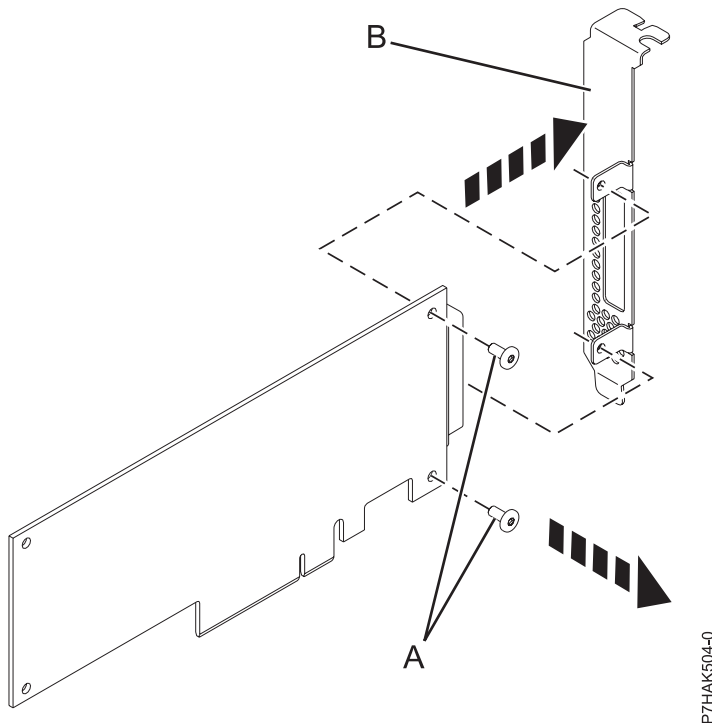

Figure 33. Removing the high-profile tailstock from a new PCI adapter
7. Using a Phillips screwdriver, unscrew the two retaining screws (A) that attach the tailstock (B) to the new PCI adapter, as shown in Figure 33.